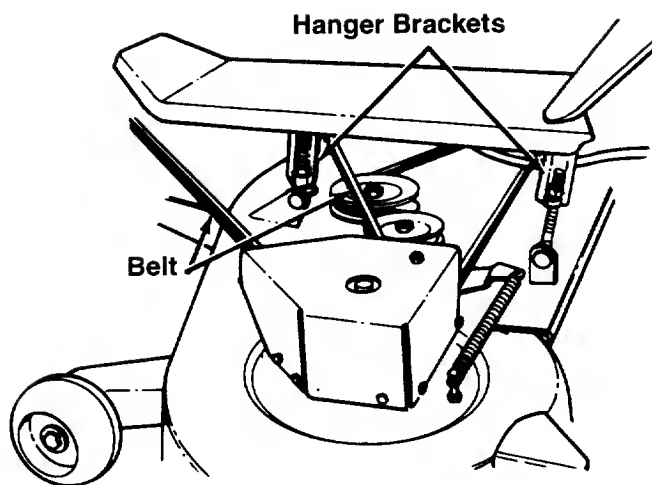

FIGURE 5.
6. Attach the four tractor hanger brackets to the deck as follows. The left front tractor hanger bracket goes through the center of the V-belt. See figure 5. Attach the rear hanger brackets first, then the front, using four flat washers and hairpin clips.